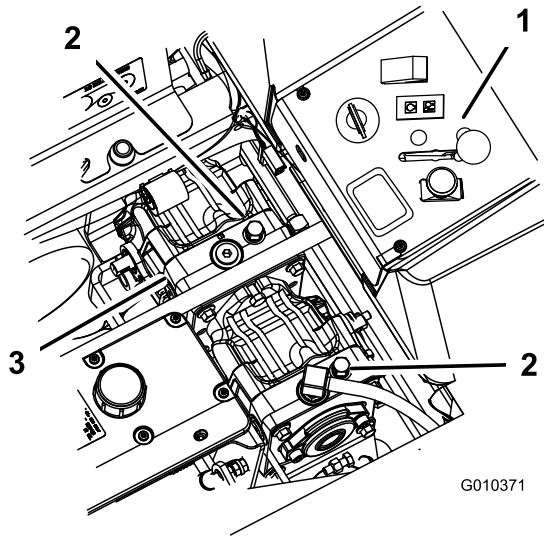

Figure 38
3. Rotate the bypass valves counterclockwise 1 turn to push (Figure 38).
Rotate the bypass valves clockwise 1 turn to operate machine (Figure 38).